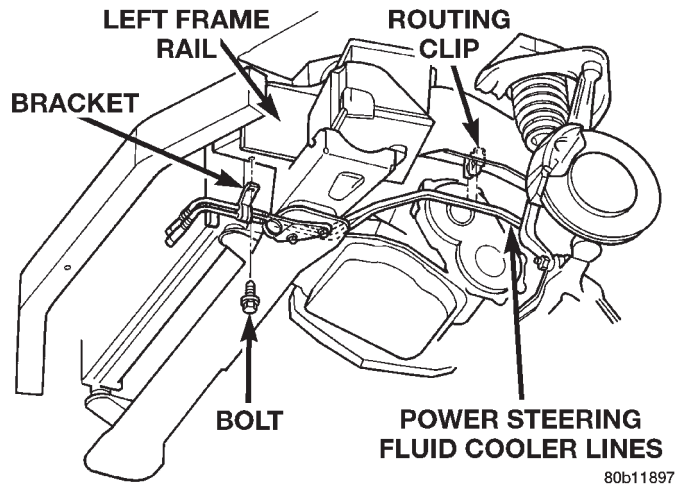

Fig. 27 Power Steering Cooler Line Attachment
(7) Remove the bracket attaching the power steering fluid cooler lines to the left front frame rail (Fig. 27).
(12) Remove the power steering fluid cooler lines from the routing clip on the left front frame rail (Fig. 27).
(13) Separate the power steering cooler line assembly into 2 separate pieces.
(14) Remove each cooler line separately from the vehicle. The cooler lines are removed out through the front of the vehicle in the area between the radiator and the closure panel.
(1) Install the cooler lines individually using the reverse procedure of their removal.
(2) Install the cooler lines in the routing clip on the left frame rail (Fig. 27).
(7) Install the left front wheel/tire.
(8) Install the bracket attaching the power steering cooler lines to the left frame rail (Fig. 27). Install bracket attaching bolt and tighten to a torque of 7 N·m (60 in. lbs.).